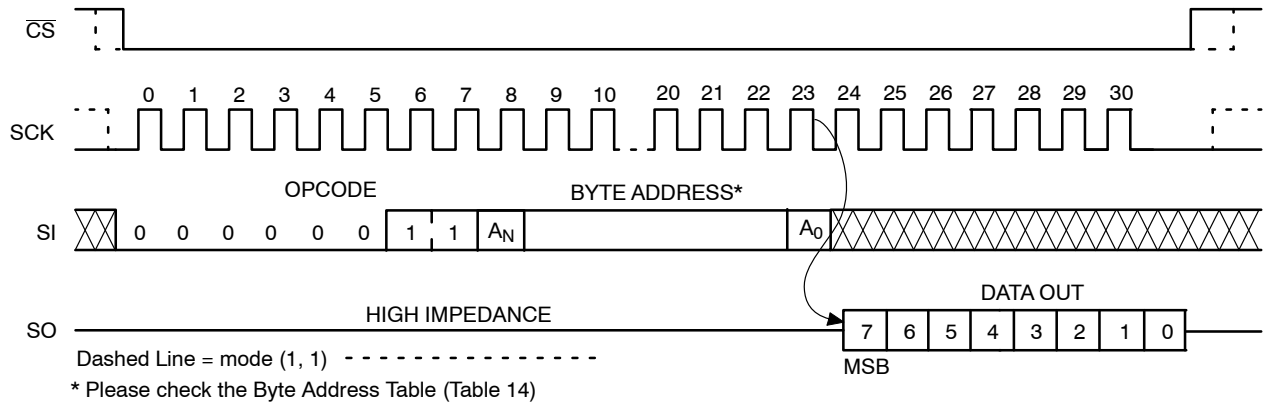

Figure 9. READ Timing
After receiving the last address bit, the CAT25128 will respond by shifting out data on the SO pin (as shown in Figure 9). Sequentially stored data can be read out by simply continuing to run the clock. The internal address pointer is automatically incremented to the next higher address as data is shifted out. After reaching the highest memory address, the address counter “rolls over” to the lowest memory address, and the read cycle can be continued indefinitely. The read operation is terminated by taking $\overline{\text{CS}}$ high.
Reading the additional 64-byte Identification Page (IP) is achieved using the same Read command sequence as used for Read from main memory array (Figure 9). **The IPL bit from the Status Register must be set (IPL = 1) before attempting to read from the IP.** The [A5:A0] are the address significant bits that point to the data byte shifted out on the SO pin. If the $\overline{\text{CS}}$ continues to be held low, the internal